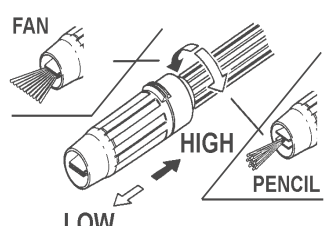

fig 7
- 4.3.2. Rotate the nozzle to make the adjustment of the water jet between pencil or fan setting (fig 7).
- 4.3.3. Push the nozzle forwards for low pressure operation (suction and spraying of detergent), for high pressure operation (high pressure washing and rinsing) pull backwards (fig 7).
- 4.4.2. Adjust the nozzle to **low** pressure with a fan setting (fig 7).